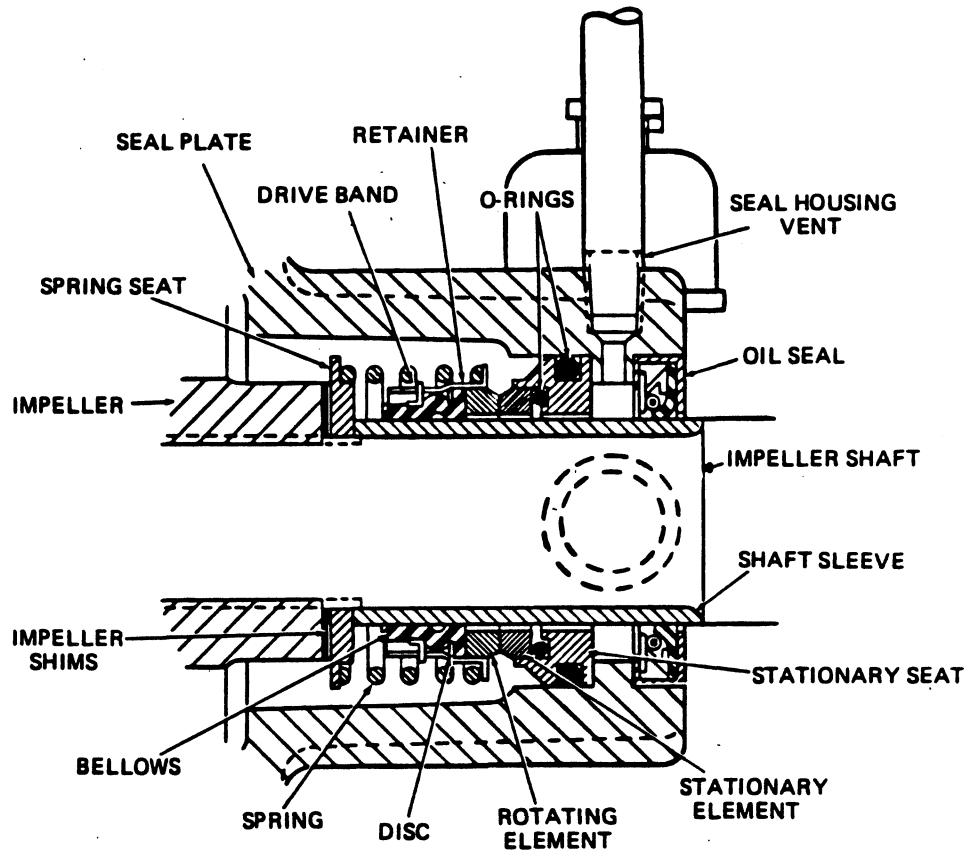

Figure 4. 12446 Seal Assembly
To ease installation of the seal, lubricate the O-rings and bellows with water or a very **small** amount of oil, and apply a drop of light lubricating oil on the finished faces. Assemble the seal as follows, (see Figure 4).
If separated at disassembly, install the seal housing gasket (38) and secure the seal housing to the seal plate with the nuts (34). Press the oil seal (23) into the seal housing with the lip positioned as shown in Figure 4.